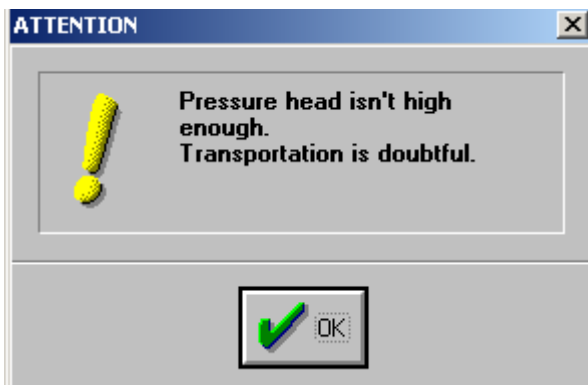

Figure 22.
1. Difference of pressure between inlet and outlet of pipeline is negative at the initial conditions. In this case the program finds that transportation is impossible, on the stage of checking the initial data. The program does not perform the calculations and informs the user on the arising problem – see Figure 22.